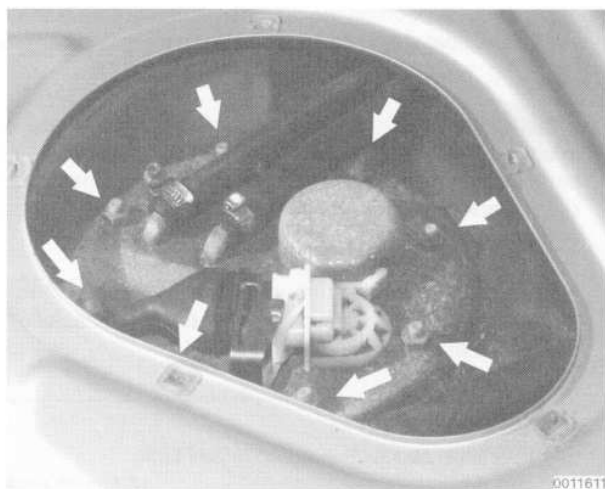

Fig. 4. Fuel level sender mounting nuts (arrows).
4. Label and then remove the fuel hoses and harness connector from the fuel sender. Unscrew the mounting nuts or bolts from the fuel level sender. See Fig. 4.